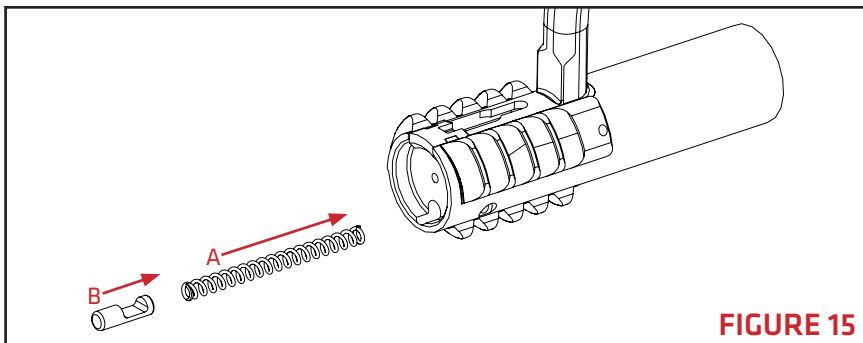

FIGURE 15
- Place the ejector spring in the ejector spring hole (**FIGURE 15-A**). The spring is bi-directional.
- Place the ejector in the ejector hole (**FIGURE 15-B**). Orient the ejector so that the ejector's pin slot is facing toward the bolt.